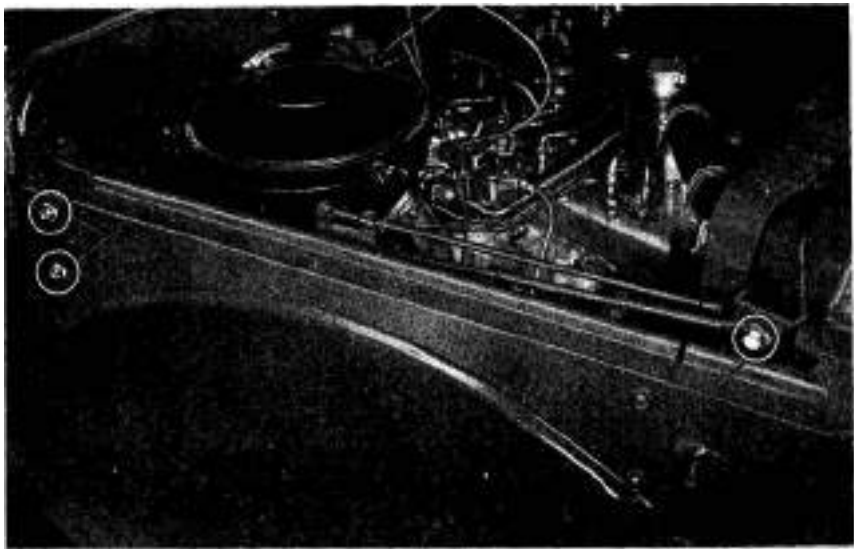

Figure 12. Fender and radiator guard assembly disconnect points.
c. Remove Front Fenders and Radiator Guard Assembly (fig. 12). Remove lock washer screws from fender supports (C and D). Remove lock washer screws from rear of hood panel (A). Remove lock washer screws from radiator-tie rods at front end (B). Remove fenders (with headlight and marker light) and radiator guard assembly.